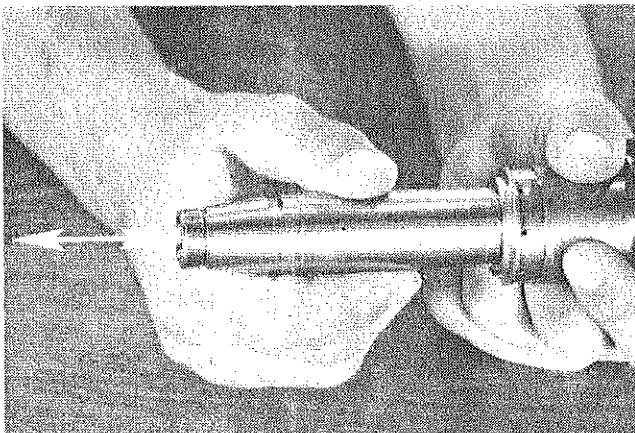

FIG. 24
- b. If the user does not have the facilities to measure axial movement with a dial indicator, another option is to hold the assembly in hand and to feel for approximately .001" movement. See Fig. 24. This method is of course not as accurate and the reliability of the unit will not be as assured upon complete turbine reassembly.